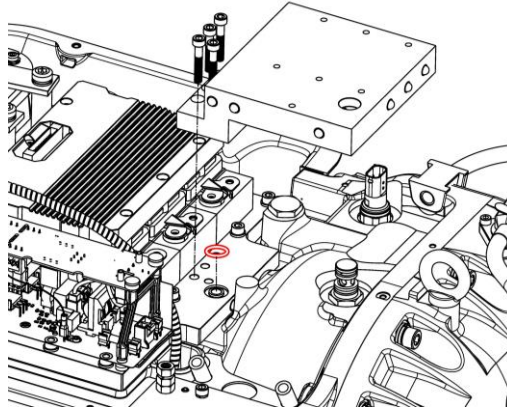

Figure 3 – SCR Cooling Manifold Removal
2. Remove the SCR Cooling Manifold as described in the Service Manual. Refer to Figure 3 – SCR Cooling Manifold Removal.